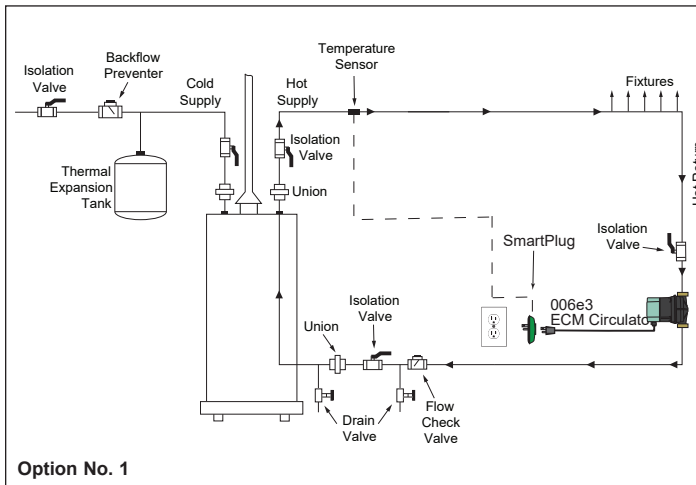

Figure 1: Installation Diagram (For reference only)
1. Install the SmartPlus-e 006e3 circulator in-line on the DHW return line pumping toward the hot water source as shown in Figure 1. Be sure the directional arrow on the casing is installed with the arrow pointing toward the hot water source.
2. Install all other system components as shown in the piping diagram in Figure 1.